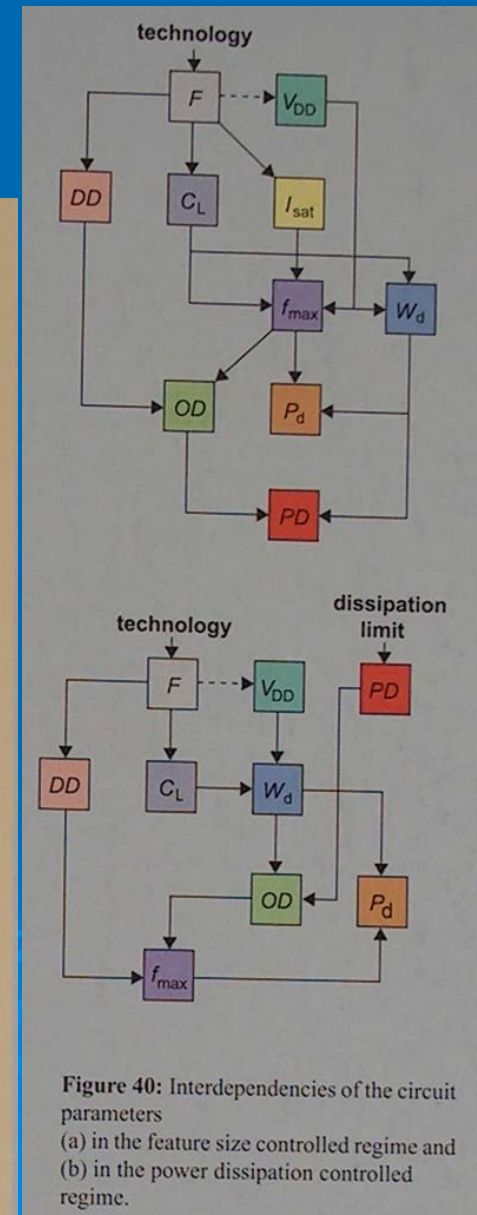

Figure 40: Interdependencies of the circuit parameters (a) in the feature size controlled regime and (b) in the power dissipation controlled regime.
- Power density (PD) up to 100 w/cm^2 is reasonable
- Figure (fig 40) demonstrates two different schemes of circuit parameter interdependencies:
Figure 41: Illustration of the circuit parameters versus the feature size F . Regime I is the F controlled regime, regimes II to V are controlled by the limit of dissipated power density PD . In all regimes, a scaling of the device density DD according to the available area is assumed (i.e. $DD \propto F^2$). Regime I: All characteristics are directly or indirectly determined by the min. feature size F . The scaling characteristics is a coarse approximation to the evolution of the CMOS technology in the $F = 100$ regime (see Figure 40).